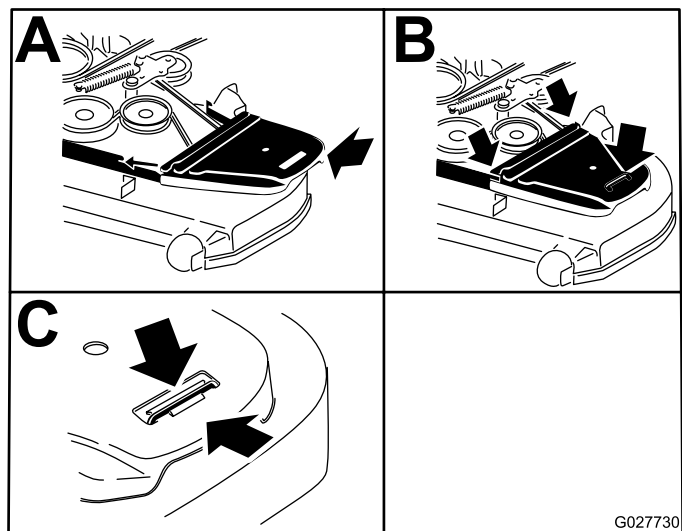

Figure 60
9. Install the belt covers (Figure 60).